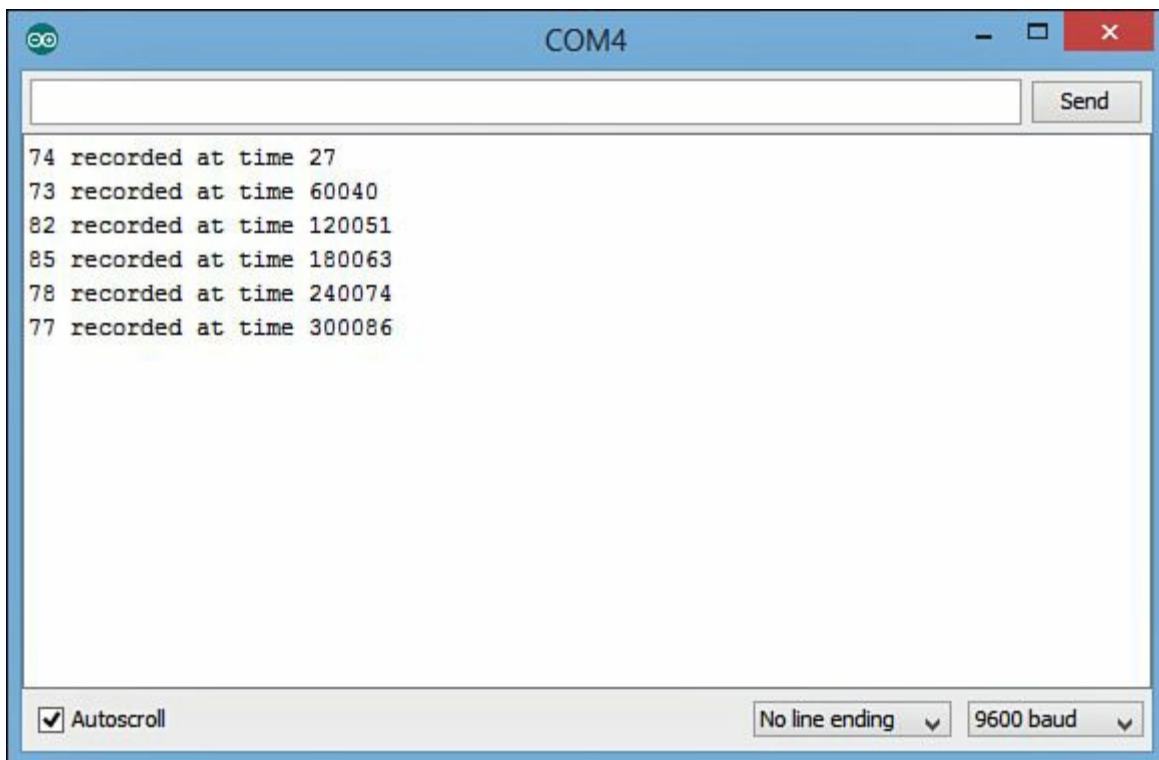

FIGURE 23.2 Output from the temperature logger sketch.
4. Open the serial monitor, then let the sketch run for 5 or 10 minutes. Figure 23.2 shows the output you should see in the serial monitor.